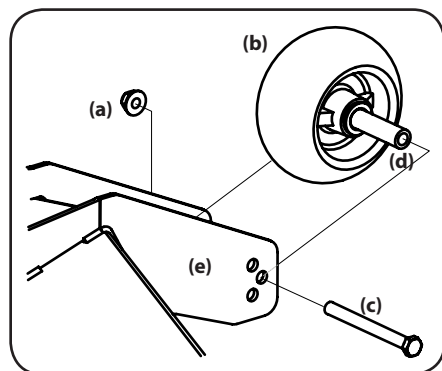

Figure 4-10
2. Remove the lock nut (a) securing one of the front gauge wheel (b) to the deck. Remove the front gauge wheel (b), hex screw (c) and spacer (d). See Figure 4-10.